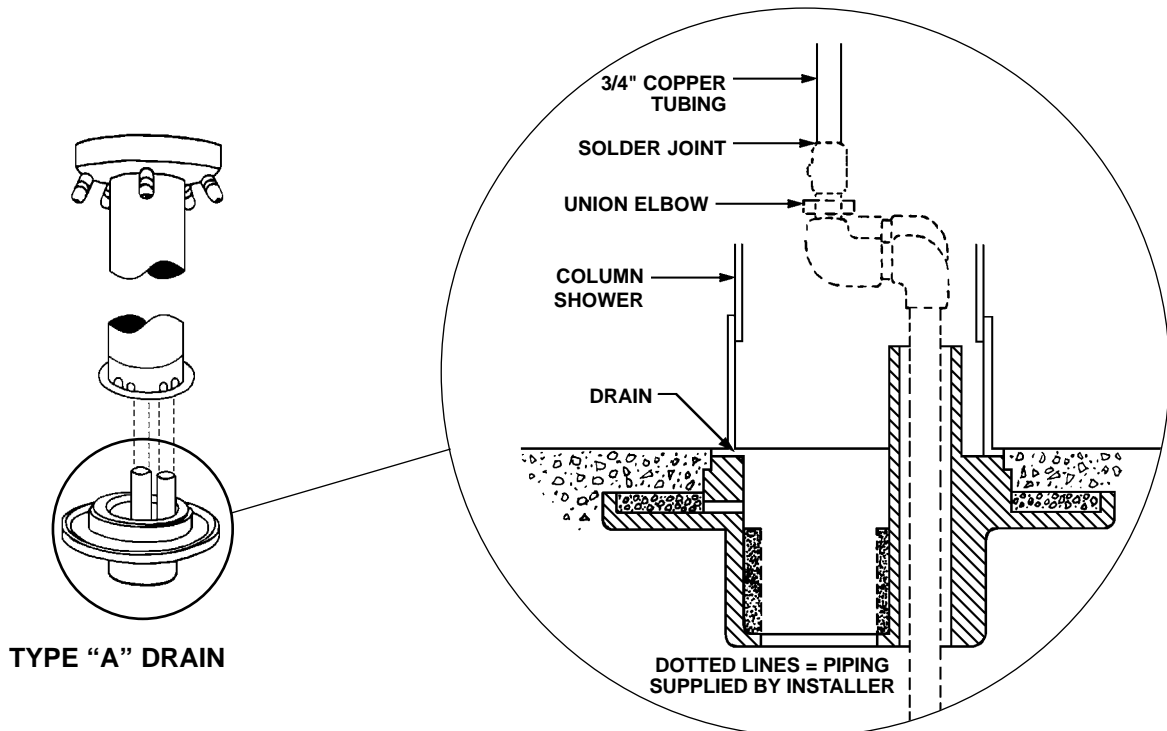

Figure 2a
2. Through the access opening, connect the water supplies to the shower's 3/4" copper tubing as shown in Figure 2a (piping supplied by installer).